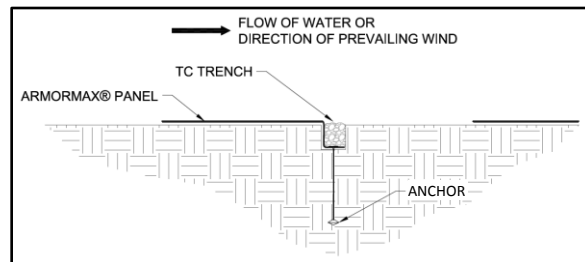

**Figure 16: Crest of Slope (COS) Trenches Complete**
12. Secure ARMORMAX with pins and anchors in the opposite COS trench. Suggested placement of pins and anchors for the opposite COS trench is along the bottom of the trench with pins on 12 in (300 mm) centers in between anchors on 4 ft (1.2 m) centers (Figure 16).
13. Backfill and compact the opposite COS trench in the location of the first ARMORMAX panel only (Figure 16).